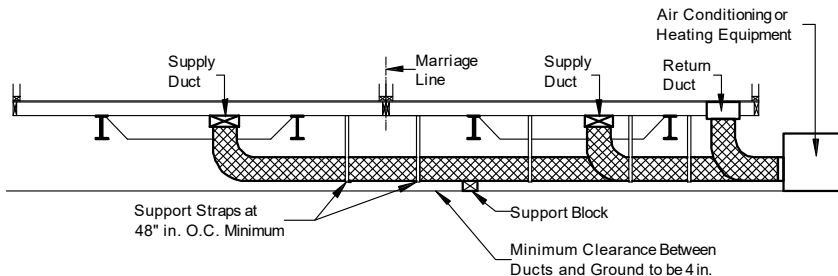

Figure 88. Ducts connecting exterior heating and/or cooling equipment to the home
2. **Install ducts.** Install the appropriate supply and return ducts (not provided) between the remote unit and the home (**Figure 88**) making connections according to the instructions for crossover ducts in **Crossover Connections** (p. 52).